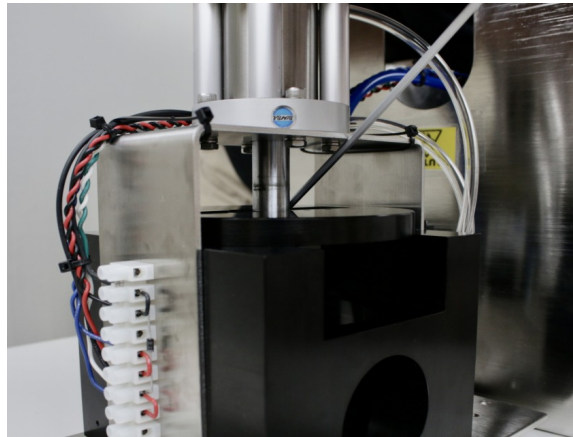

Figure 3.2.3 Push knife holder down with forefinger or a rounded end tool.
- When installing bushings push cutting blade holder all the way down by hand or with a rounded end tool. Be careful to not damage the knife holder. ***Figure 3.2.3 (make sure air line and power are disconnected!)***